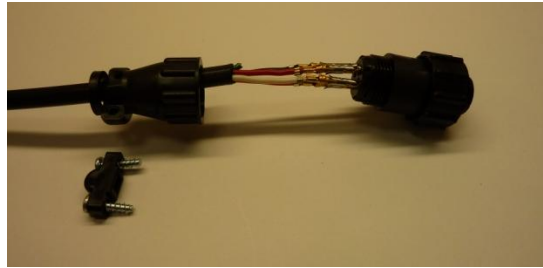

Figure 28: Pins inserted into DC power connector
Step 6: Using your fingers, insert the crimped pins into the corresponding holes of the DC power connector plug (Figure 28). Be sure to match the pin-out as specified earlier.